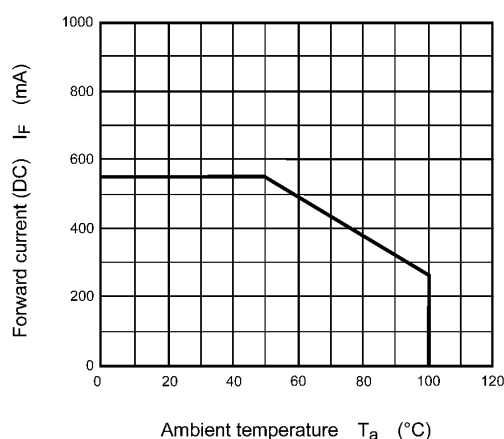

Fig. 4.1 $I_F - T_a$ (Note)
| Forward current (DC) See Fig. 4.1. | I_F | | 550 | mA |